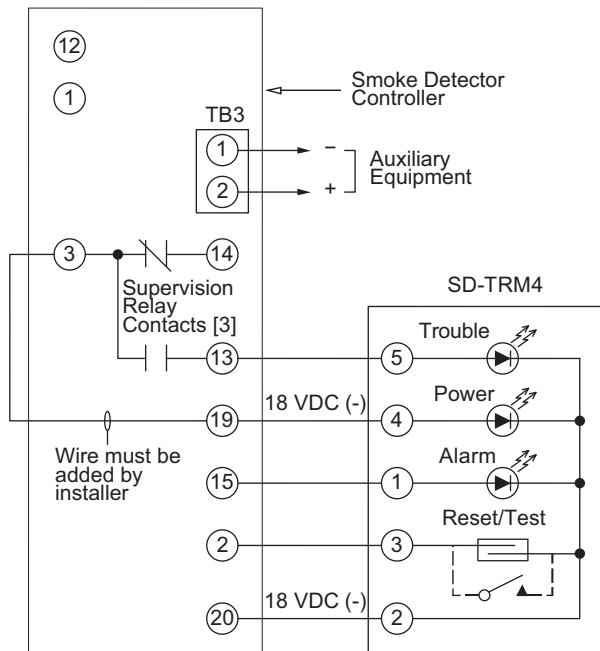

Fig. 44 — Remote Test/Reset Station Connections
The test/reset station dirty sensor test checks the test/reset station's ability to initiate a sensor dirty test and indicate the results. It must be wired to the controller as shown in Fig. 44 and configured to operate the controller's supervision relay. For more information, see "Dirty Sensor Test" on page 34.
- 1. Verify that the remote test/station is wired as shown in Fig. 44. Repair or replace loose or missing wiring.